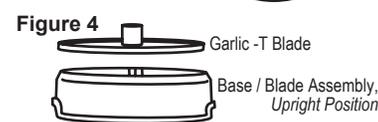

Figure 4
4. Turn the new Base Assembly to the upright position. Insert the second Garlic Blade labeled "GARLIC-T" (with the wording facing up) on top of the bottom Garlic Blade (Figure 4).